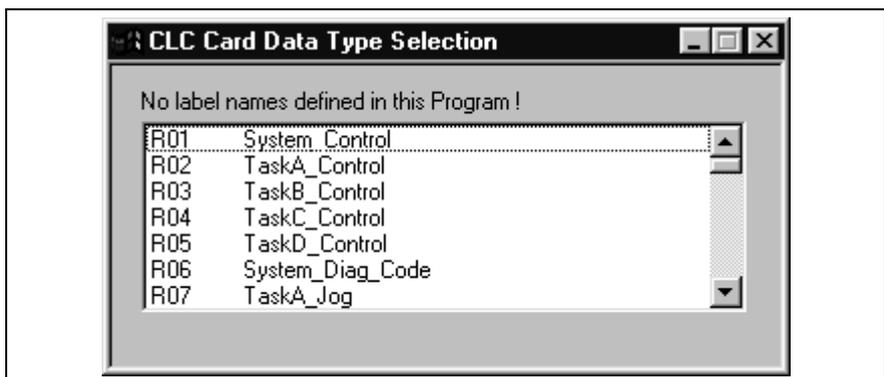

Figure 2-7: Sample Selection List
5. Select or fill in the Destination. In our example, we must select Register 100 from the list in the pop-up screen shown in **Figure 2-7: Sample Selection List** OR type 100 as the destination.